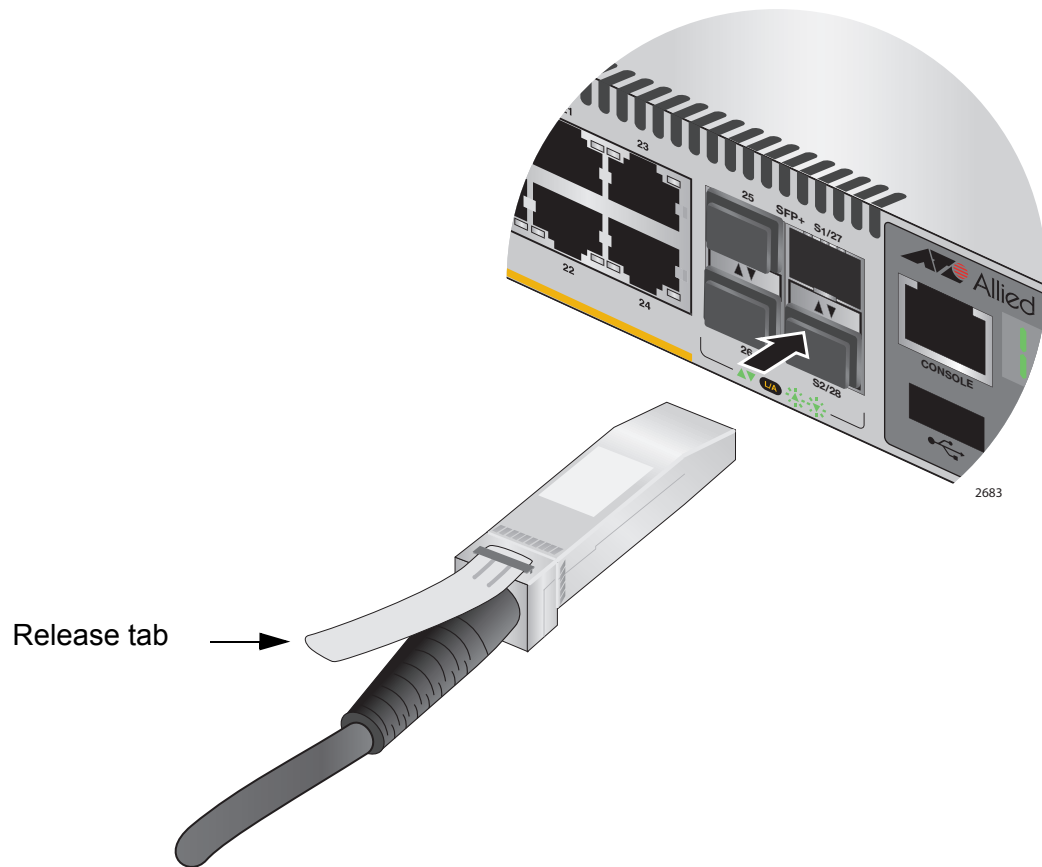

Figure 52. Installing the AT-StackXS/1.0 Transceiver in Slot S1
4. Position the transceiver with the release tab on top and slide the transceiver into the slot, as shown in Figure 52 on page 94.